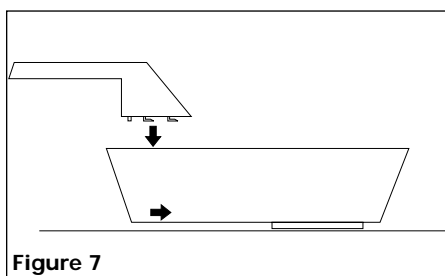

Figure 7
4. To attach the handle, place shield on a flat surface and press handle into place (See Figure 7).